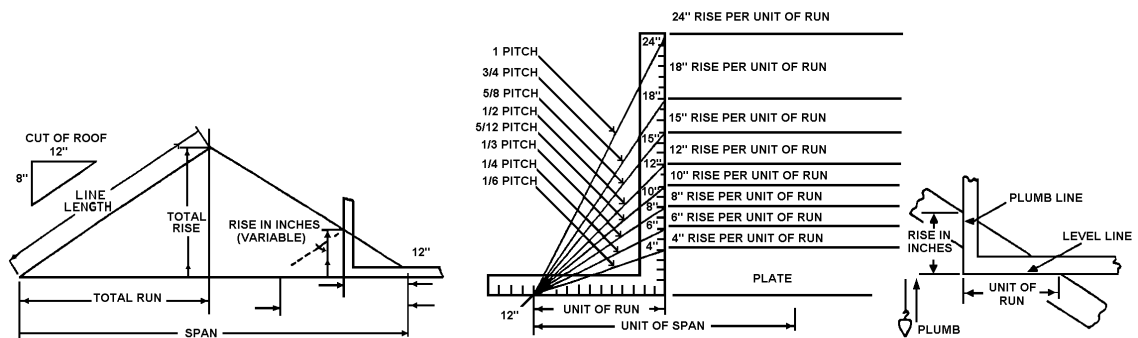

Figure 1
- e. Given figure 1, explain roof pitch design.